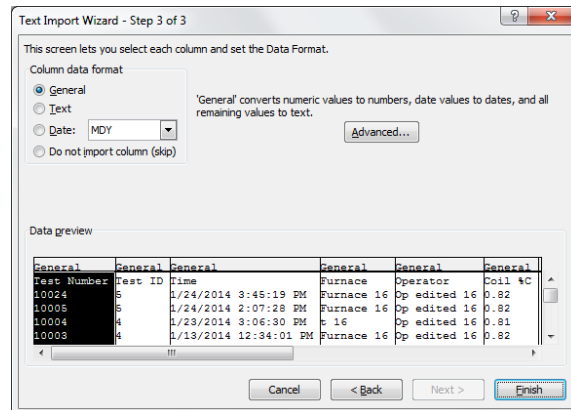

Figure 60 - Importing CSV file in Microsoft Excel (Step 3 of 3)
5. The “Column data format” can be configured for each column using the options in Excel (Figure 60). “General” format should work well in most cases. Click **Finish** when ready.